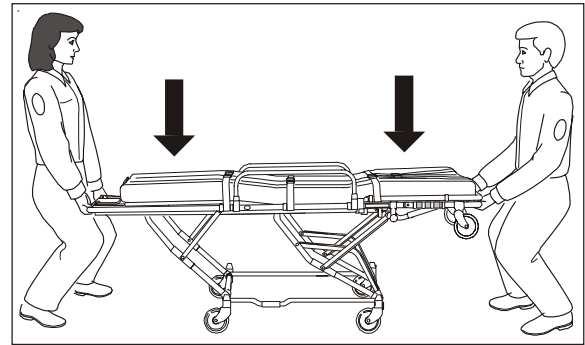
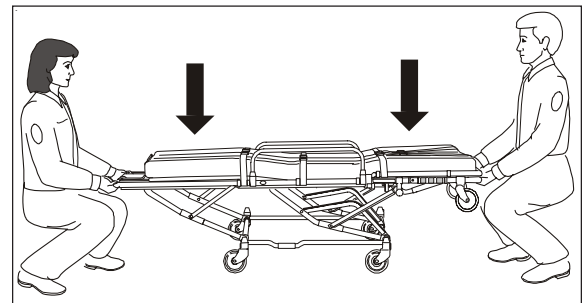

Figure 13 - High-Level to Mid- or Low-Level Rolling
Figure 14 - Mid-Level to Low-Level
1. *Both Operators:* Grasp main frame and lift weight of cot slightly off wheels. The wheels should remain on the ground (Figure 13 or Figure 14).